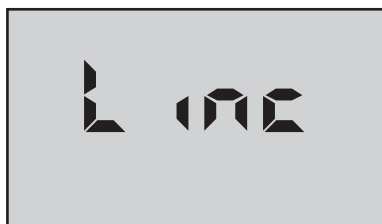

Figure 27
- Press  arrow key until the menu “Linc” appears (see Figure 27).
2. Press  key until the menu “**Linc**” appears, (see Figure 27).